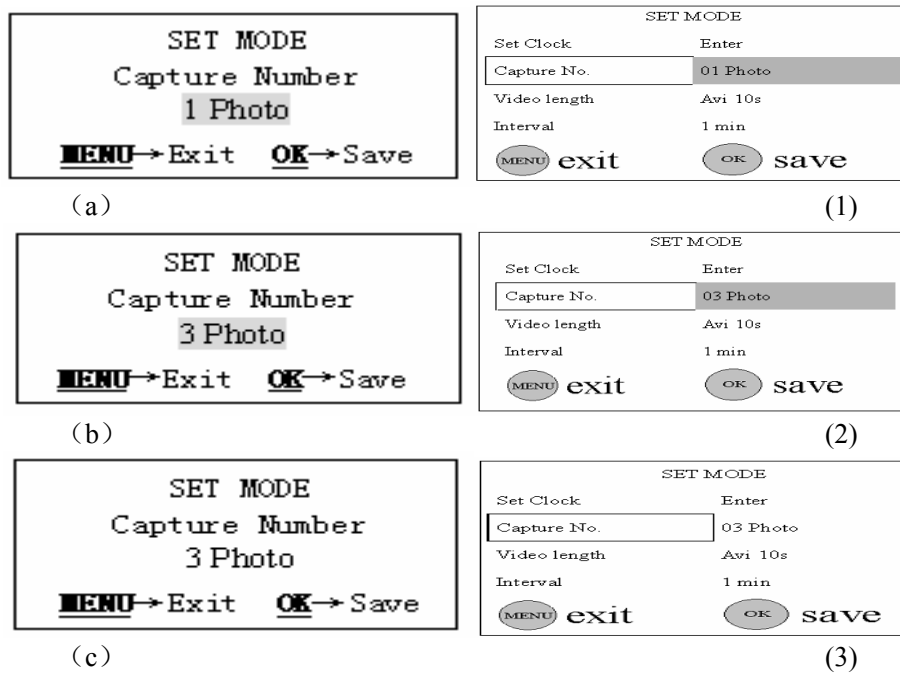

Figure 10: Setting shooting numbers
- 1 In MENU, press the UP or DOWN key until Capture Number appears, as shown in Fig. 10(a) and 10(1).
- 2 Press the RIGHT key to change the value to the desired number. The desired number will be highlighted, as shown in Fig. 10(b) and 10(2).
- 3 Press the OK key to save or press the MENU key to cancel and exit. After pressing the OK key, the selected value will no longer be highlighted, as shown in Fig. 10(c) and 10(3).